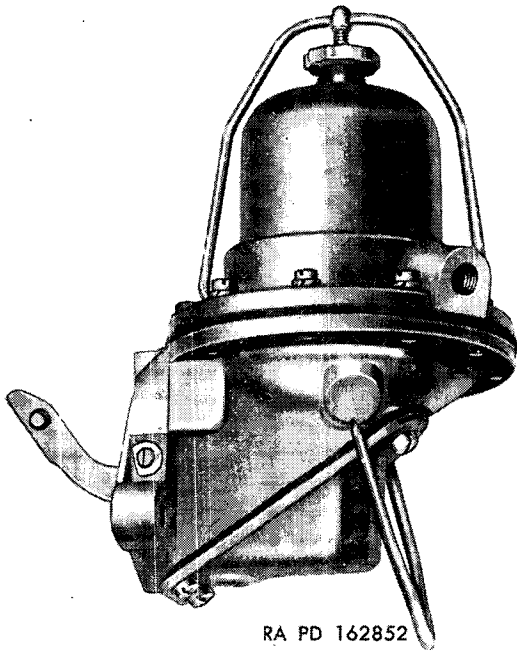
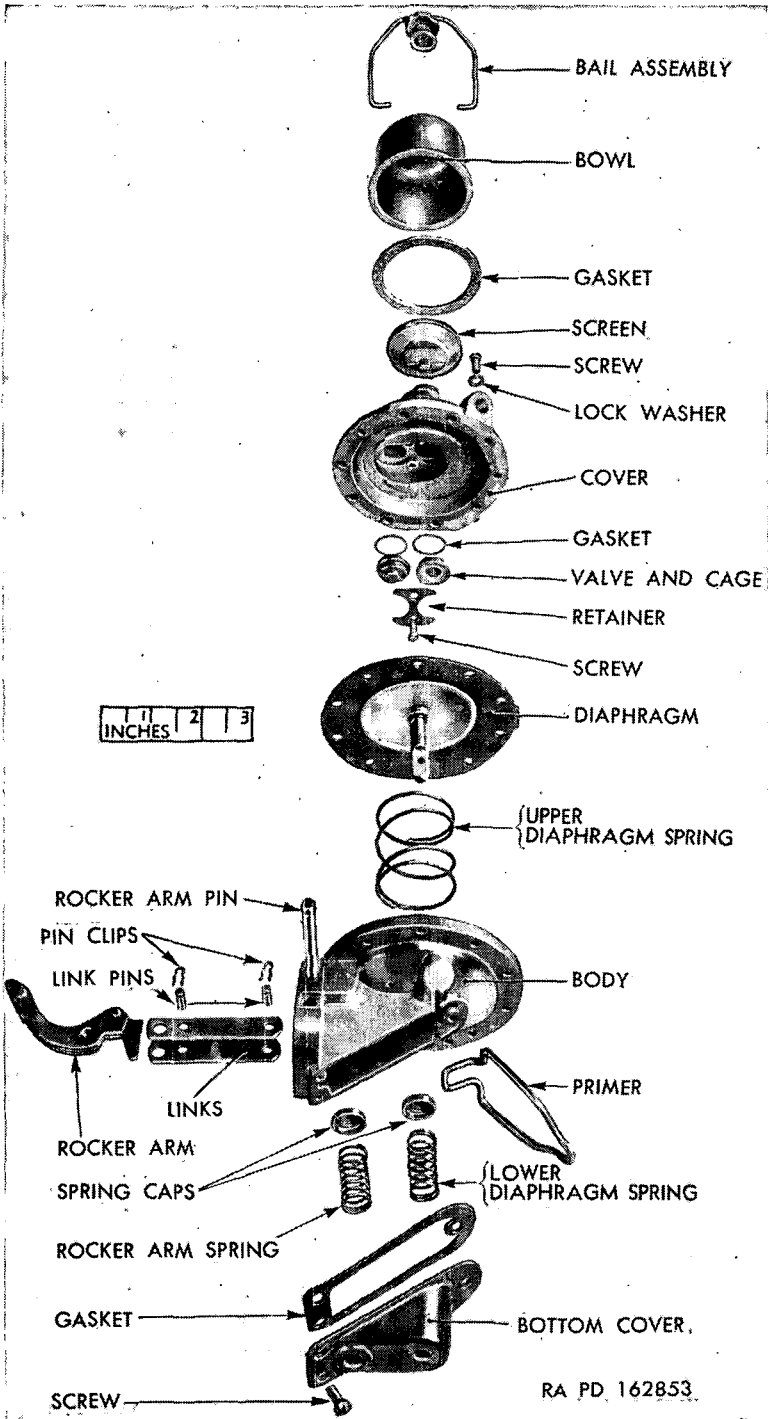

Figure 26. Fuel pump, series AG.
Figure 27. Fuel pump—disassembled (typical series AG construction).
- (1) Mark edges of top cover and body (fig. 27) of series AG fuel pump (fig. 26) with a file. Mark at heat shield stud, if used. The parts may then be assembled in the same relative positions and heat shield stud properly located.
a. Assemble Body (fig. 27).
- (1) If used, assemble upper spring over diaphragm pull rod, and push pull rod through hole in pump body. Assemble sheared ends of two links to flat of pull rod (sheared link corner toward top of pull rod) and retain with one link pin and two clips. Install link pin through center hole of links and retain with two clips.
- (2) Install rocker arm between links with hooked end over center link pin. Assembly is correct when center link pin is below center line of links. Aline rocker arm pin hole with hole in body and drive in rocker arm pin. Install washer over counterbored end of pin and spread pin at counterbore to retain in position.
- (3) Place diaphragm spring over inner boss of lower cover and the rocker arm spring over outer (recessed) boss. Place spring caps over springs and gasket on lower cover. Suspend body with lower cover flange down (install priming lever if used) and place lower cover, with associated parts, against body. Spring caps must seat against bottom of pull rod and hook of rocker arm. Retain lower cover with three screws.